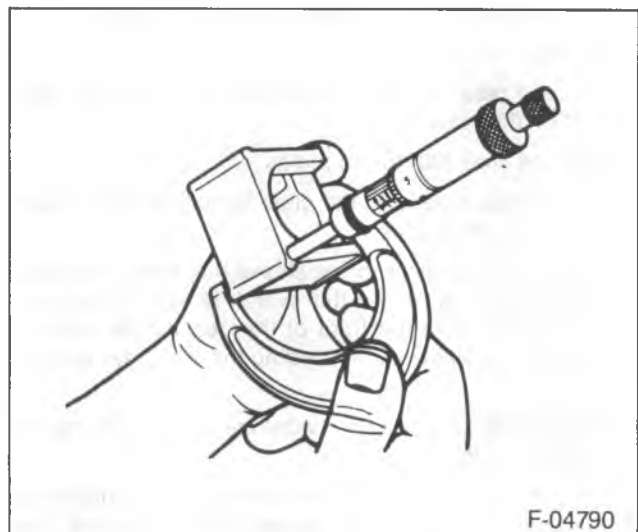

Figure 7—Measuring the Thrust Block
2. Measure the original thrust block at the outer corner with a micrometer (figure 7).